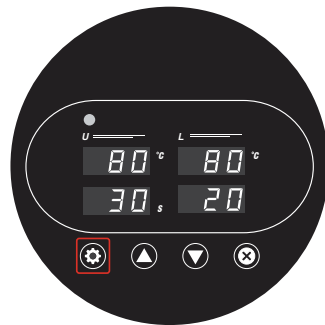

Fig. 1
1. Press Set **(G)** button on the control panel (Fig. 1) to go to the temperature setting mode for the top platen.